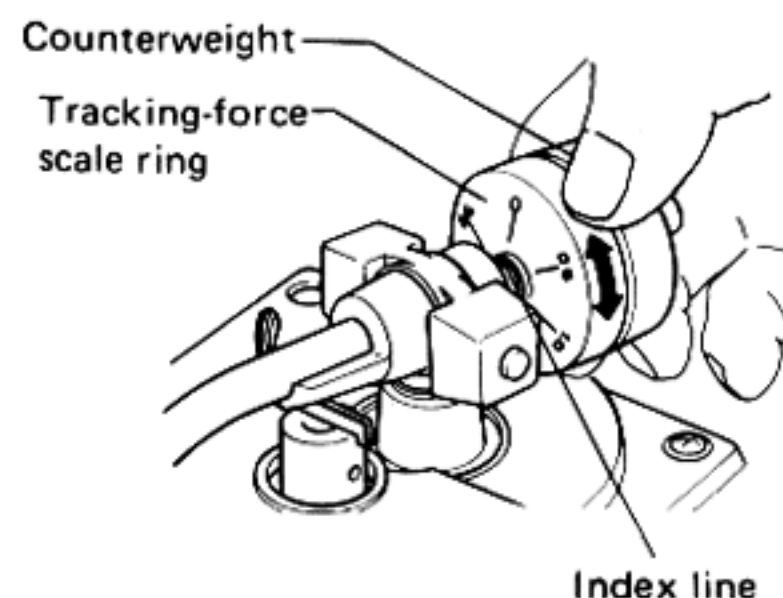

Fig. 10
8. Since the tracking force is zero when the tonearm is balanced level, turn just the tracking-force scale ring in front of the counterweight, and set the "0" on the scale to the index line on the shaft (Fig. 10). When doing so, be sure to hold the counterweight with the other hand so that it does not turn together with the scale ring.